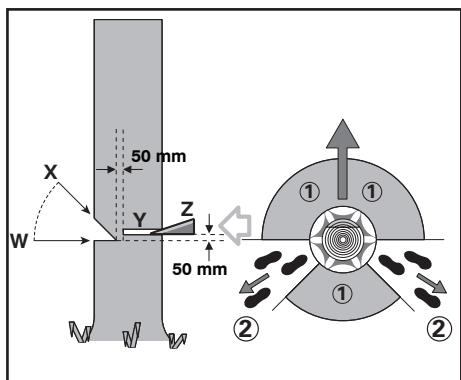

Figure 1
extend back and diagonally to the rear of the expected line of fall as illustrated in Figure 1. Before felling is started, consider the natural lean of the tree, the location of larger branches and the wind direction to judge which way the tree will fall.
Make the notch 1/3 the diameter of the tree, perpendicular to the direction of falls as illustrated in Figure 1. Make the lower horizontal notching cut (W) first. This will help to avoid pinching either the saw chain or the guide bar when the second notch (X) is being made.
Make the felling back cut (Y) at least 50 mm higher than the horizontal notching cut as illustrated in Figure 1. Keep the felling back cut parallel to the horizontal notching cut. Make the felling back cut so enough wood is left to act as a hinge. The hinge wood keeps the tree from twisting and falling in the wrong direction. Do not cut through the hinge.